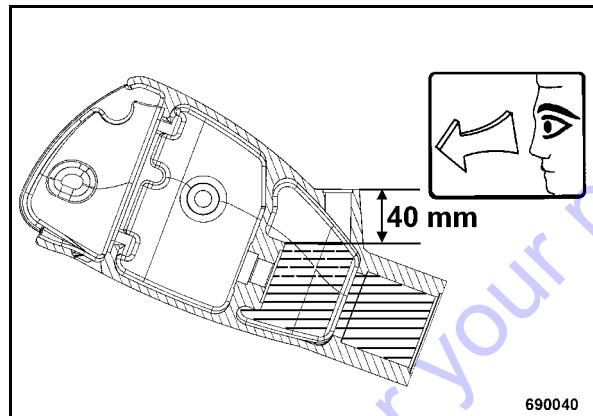

Fig. 76
- Check whether the hydraulic oil level is approx. 40 mm (1.6 in) below the filler opening (Fig. 76) (see also mark on steering rod head), top up hydraulic oil if necessary.